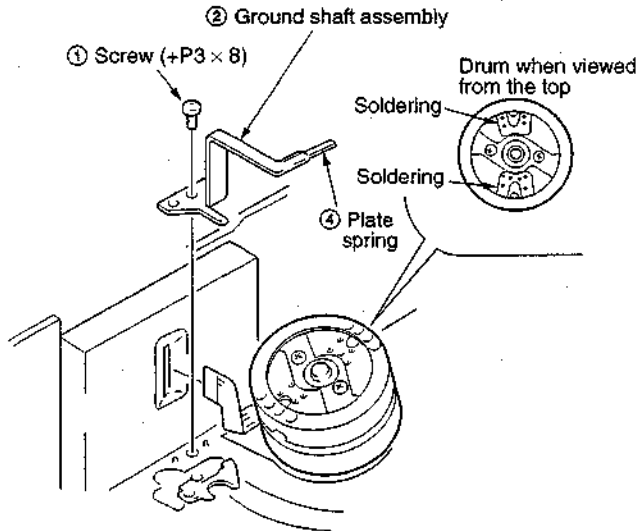

Fig. 7
- 1) Remove screw ① (+P3×8) and remove the ground shaft assembly ②. (Refer to Fig. 7)